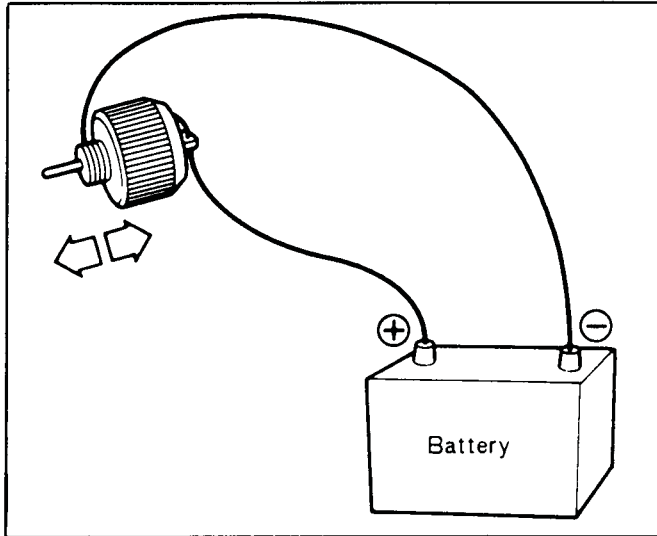

Figure 7A-9 Kickdown Solenoid
KICKDOWN SOLENOID (FIGURE 7A-9)
1. Make sure rod functions properly when 12 volts is applied to kickdown solenoid (Figure 7A-9).